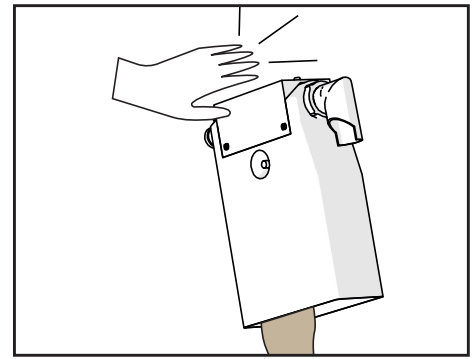

Figure 59.
1. Empty the product canisters (see Figure 59).